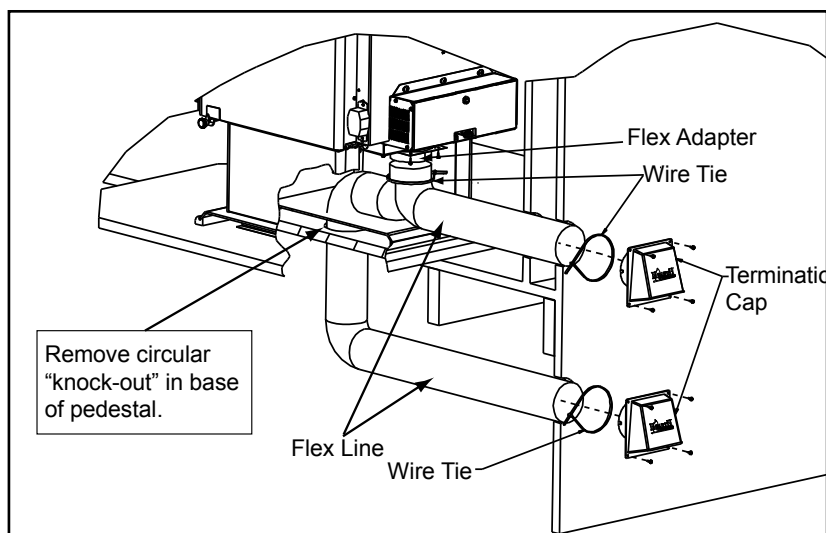
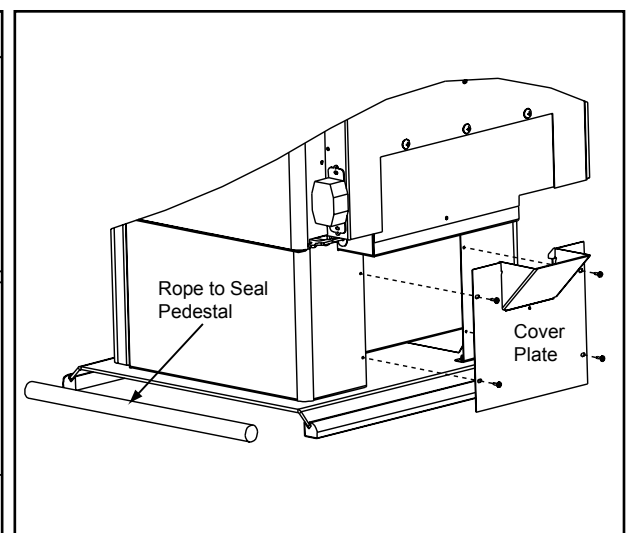

Figure 14.1 - Floor & Rear Installation
Figure 14.2 - Floor Installation Alternative
Included in SRV7033-041: Cover plate and sealing rope (see Floor Installation Alternative below, **Figure 14.2**)
2. Using a #2 Phillips screw driver attach the flex adapter to the stove using 4 screws. **Figure 14.1.**
5. **Floor Installation Alternative:** In some instances you may not be able to install the flex pipe as show in **Figure 14.1.** If that is the case, you will need to order SRV7033-041 which includes a cover plate and sealing rope as shown in **Figure 14.2.** The goal is to seal the pedestal so no room air can leak into the pedestal.